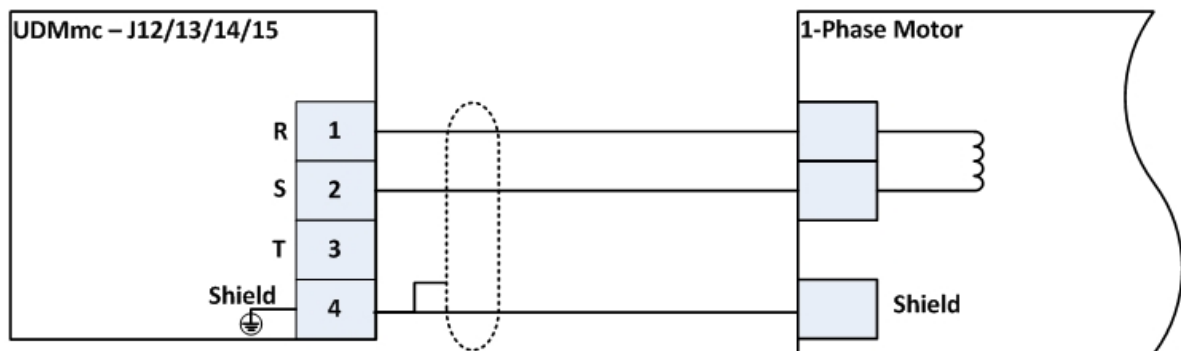
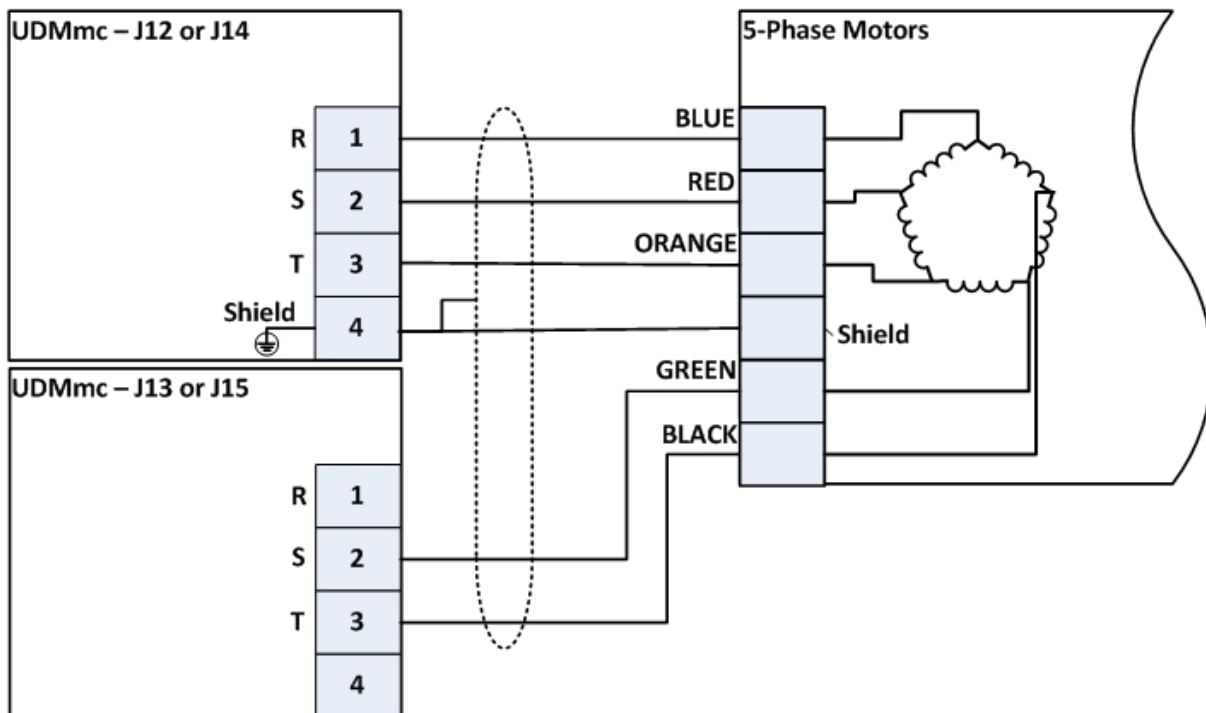

Figure 4-11. 1-Phase Motors (DC Brush, Voice Coil) Connections
Figure 4-14. 5-Phase Step Motor Connections (example of an Oriental Motor)
- > 1-phase (DC brush, moving coil), see Figure 4-11.
- > 5-phase (step motor. Consult company), see Figure 4-14.
Connect the motors according to Figure 4-11 through Figure 4-14.